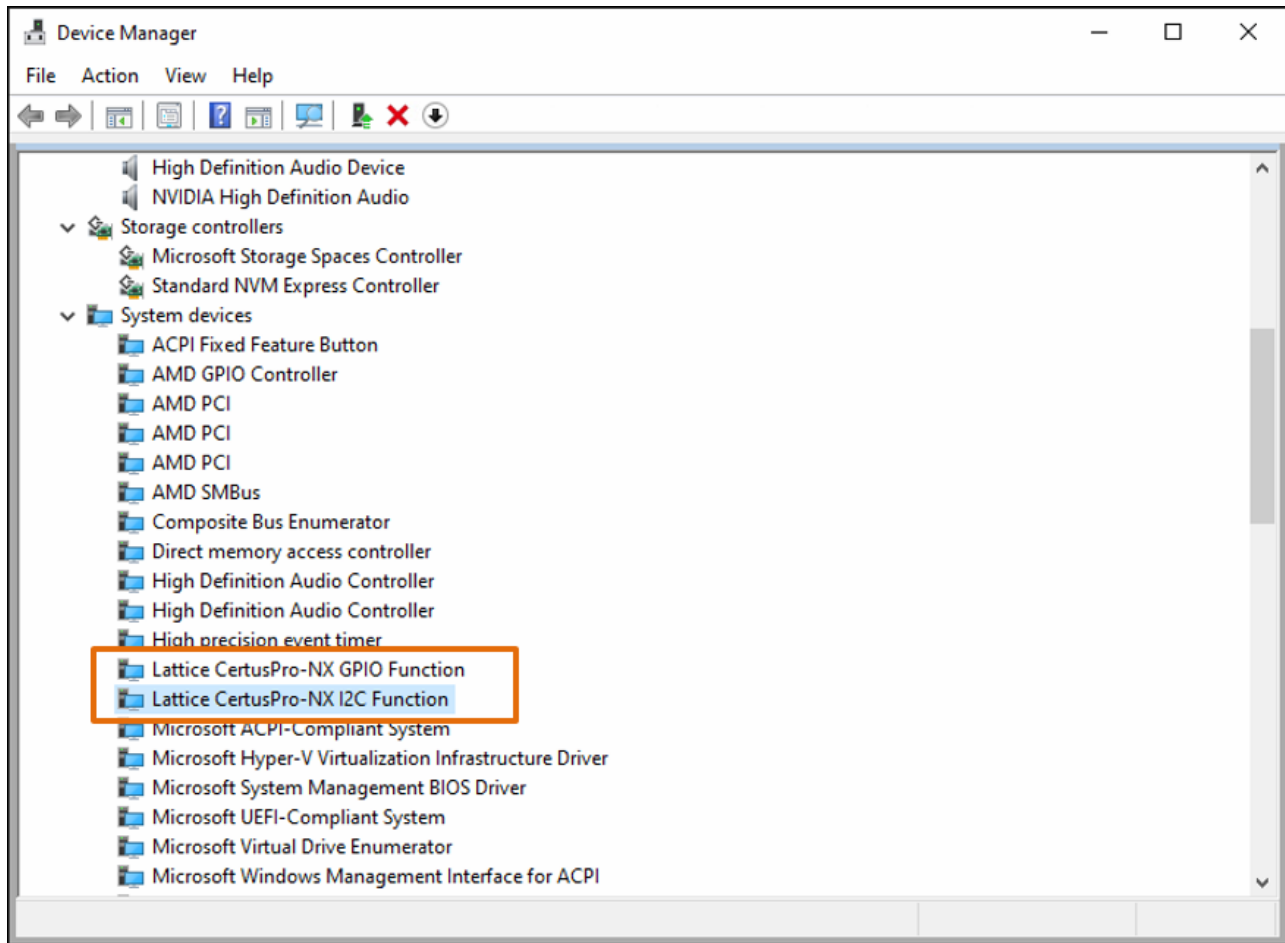

Figure 5.32. I²C and GPIO Device Drivers for CertusPro-NX in Device Manager
9. Follow steps 3 through 8 for GPIO devices. After successful installation, all the two devices should be displayed in Device Manager as shown in Figure 5.32.